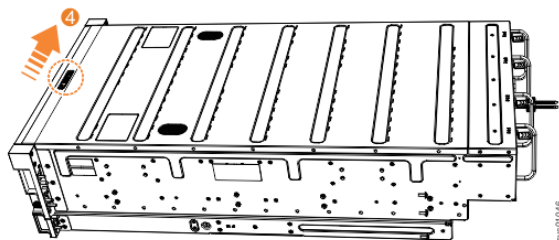

Figure 41. Locking the top cover
5. Lock the cover into position by sliding the release lever 4, as shown in Figure 41 on page 49